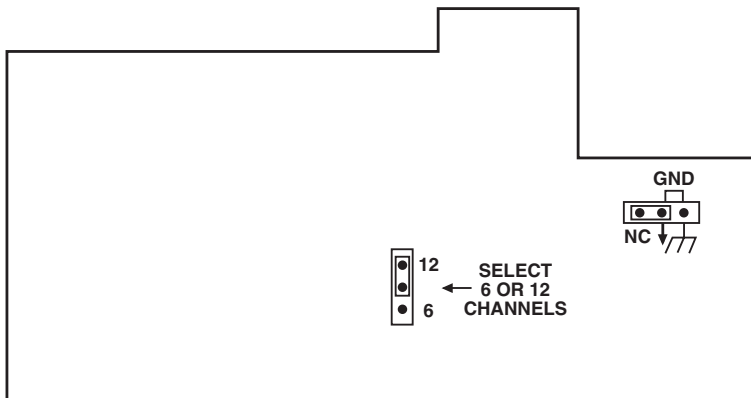

Figure 3-1. Strapping Diagram.
3. Locate the strap marked “select 6 or 12 channels” (indicated by an arrow on the circuit board). For up to 6 channels with no control applications, place the strap between the center pin, and the one marked “6.” For any other applications, place the strap between the center pin and the one marked “12” (refer to **Figure 3-1**).
4. Locate the strap marked GND. According to your requirements, set the signal ground to be connected to shielding (chassis) ground or floating (NC).